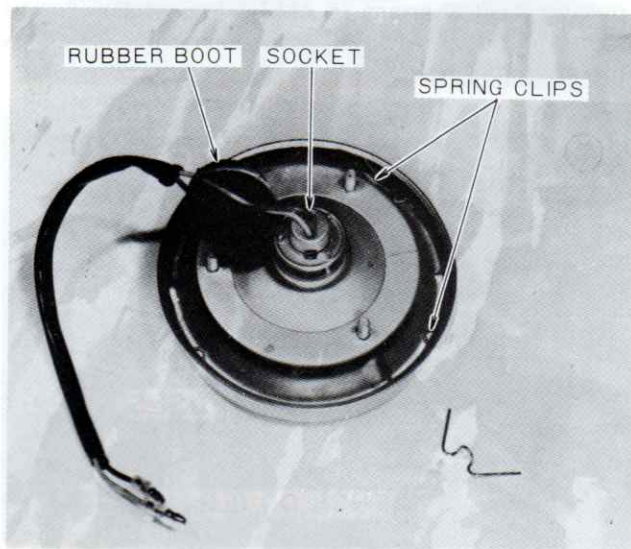

Figure 53 — Headlamp Socket Rubber Boot
5. Slide rubber boot back off the lamp socket, Figure 53.
6. Remove four spring clips holding the reflector in the ring, Figure 53.